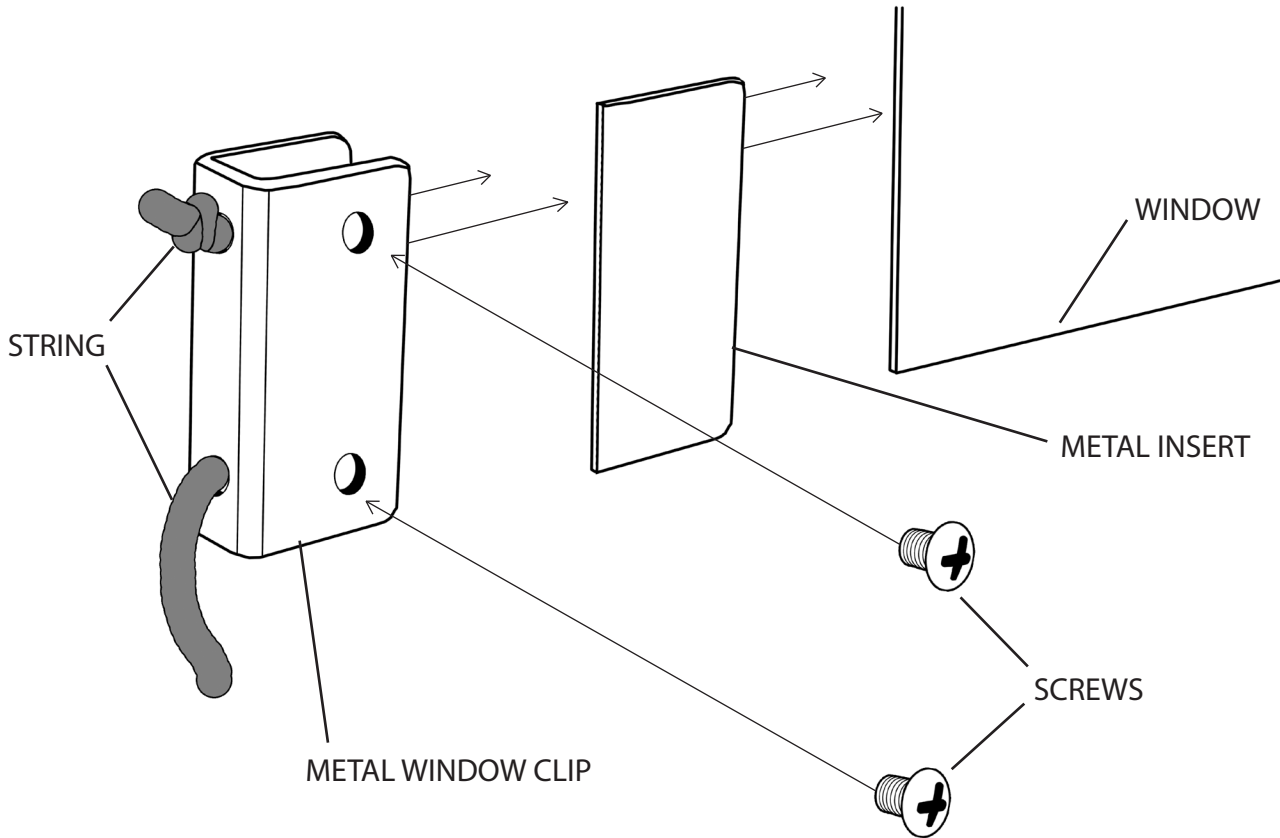

Figure 10.1
STEP 1: First feed the string through the corresponding holes in the METAL WINDOW CLIP, and tie a knot in one end. Next align and fasten the METAL INSERT and METAL WINDOW CLIP, securing in place with the (2) SCREWS, as illustrated in Figure 10.1.
NOTE: Make sure the METAL INSERT is installed on the same side that the (2) SCREWS will be fastened, as illustrated in Figure 10.1.